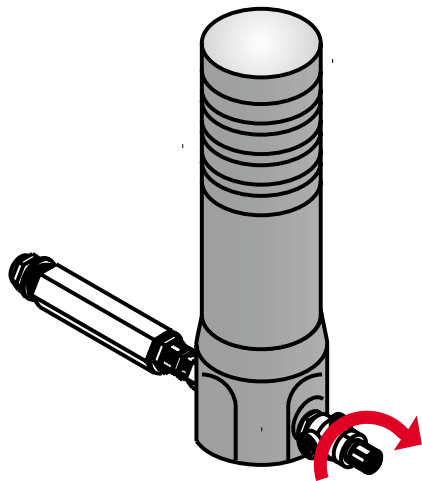

Fig.40
2) Discharge the pressure within the pump by closing the air inlet tap (fig. 40) and discharging all of the product left in the spray gun.